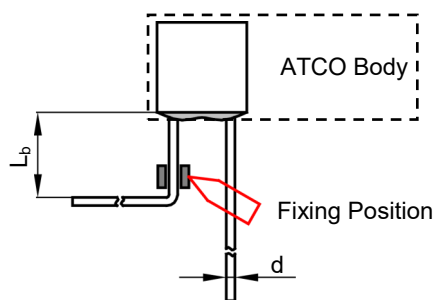

FIGURE SM-2
2. When bending leads, please use pincher or similar tools to fix the product as shown in Fig.SM-2, to avoid damaging the product.